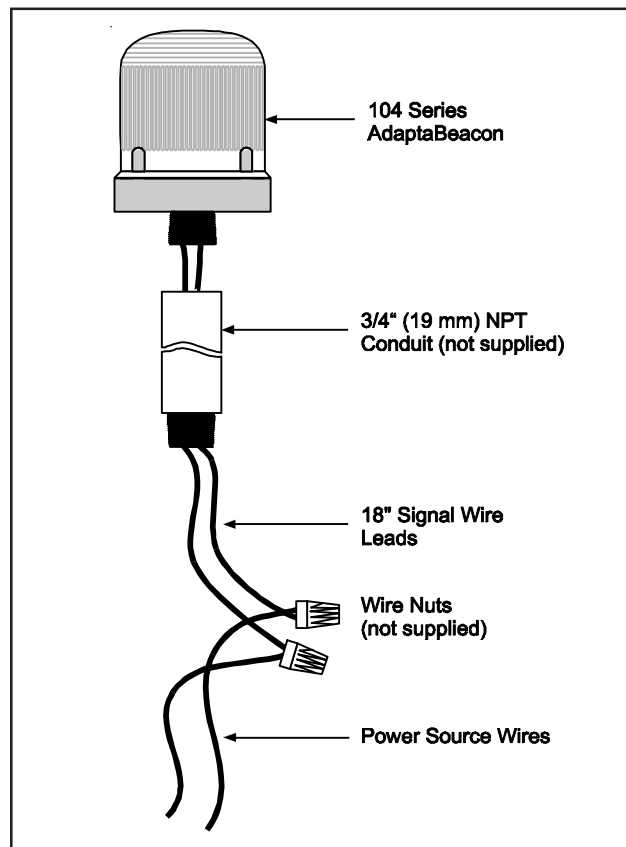

Figure 1. Conduit Mounting (3/4" Shown)
Conduit Mounting (Figure 1)
- For AC models, use wire nuts (not supplied) and connect the signal's black and white wire leads to the power source wires as shown in Figure 1. Polarity is not relevant.
- For DC models, connect the signal's red wire to the positive power source wire and connect the signal's black wire to the negative power source wire using wire nuts (not supplied). Polarity must be observed. Refer to Figure 1.
1. **Conduit Mounted Modules:** Disconnect wiring and, if necessary, unscrew base from conduit (Figure 1).